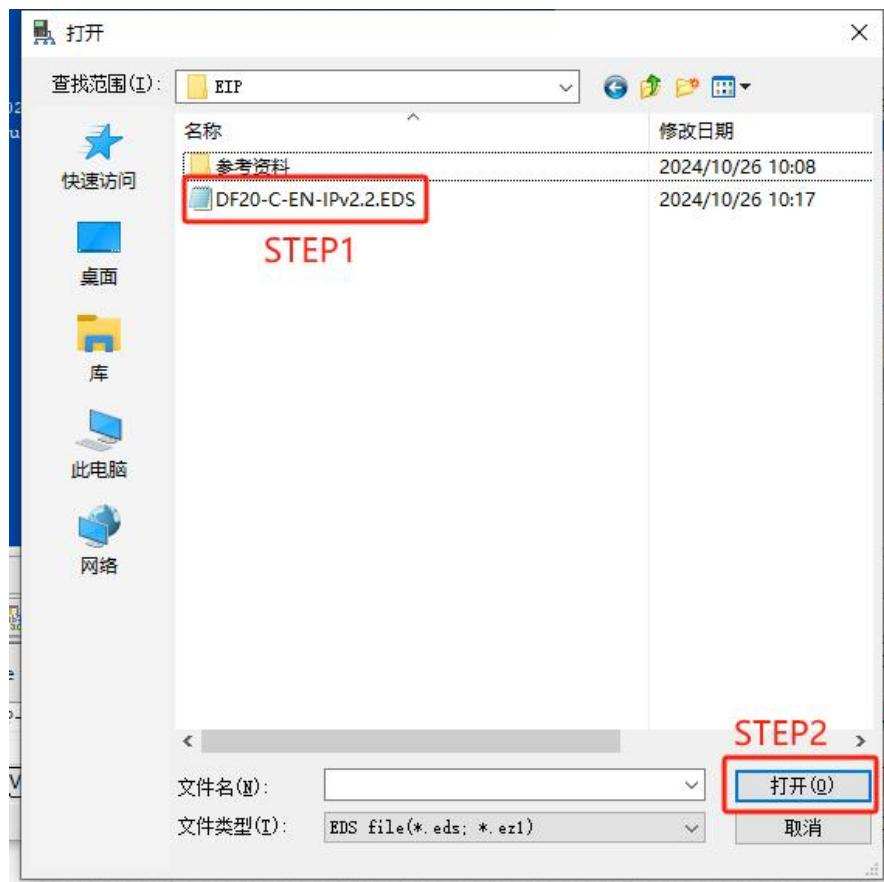
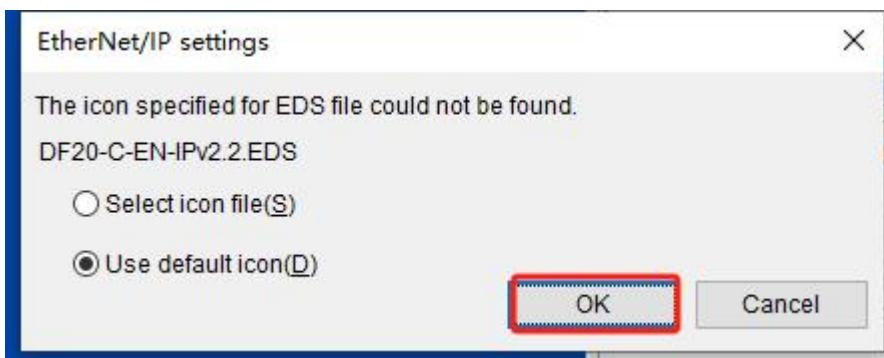

Figure 5-1-7
Figure 5-1-8
- Install the EDS file as shown in Figure 5-1-7~Figure 5-1-8: Click ESD file (D)->Reg (I), then browse to the location where the EDS file is placed.